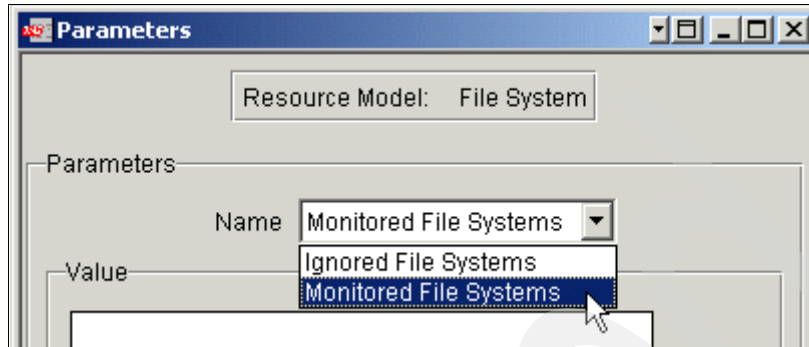

Figure 9-116 Selecting Monitored File Systems parameter
5. Select **Monitored File Systems** from the Name pop-up menu as shown in Figure 9-116.